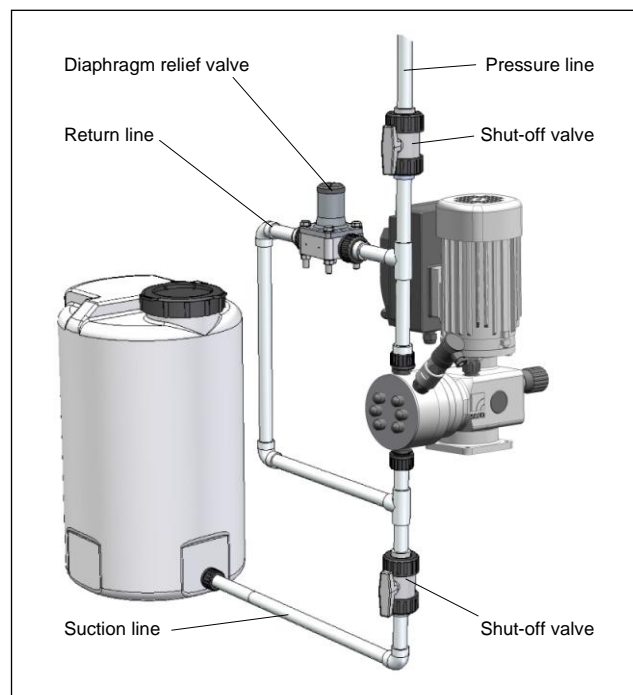

Fig. 21 System with (external) overflow valve
- or connect the overflow line directly to the pump suction line, but only if there is no check valve inside the suction line (e.g. foot valve of a suction lance) (see Fig. 21).